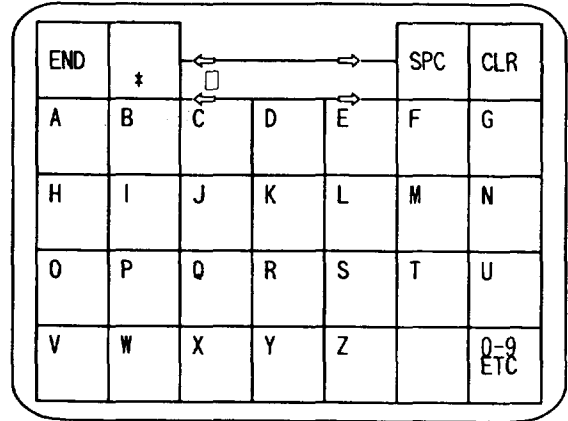

Figure 5-2 A-Z Entry Screen
- ① Press the [NAME] key on the measurement screen (see pages 9 through 14) to display the patient name entry (A-Z) screen (see Figure 5-2).